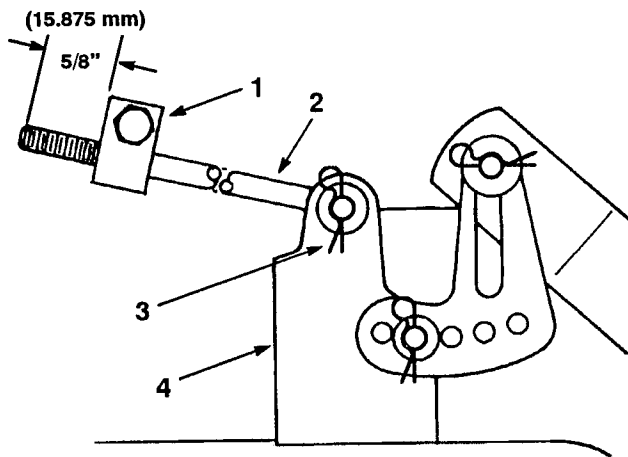

Figure 51
6. Measure the length of the rod extending out the front of the adjusting block on the sides of the chassis (Fig. 51). If the rod length is not 5/8" (15.875 mm), remove the hair pin cotter and washer from the end of the rod (Fig. 51), and turn the rod until the 5/8" (15.875 mm) dimension is obtained. Then install the end of the rod into the hole in the mower mount and secure in place with washer and hair pin cotter. Repeat this procedure on the opposite side of the mower.
8. Raise or lower the front of the mower by adjusting the length of the long rod and reinstalling it in the mower mount with the washer and hair pin cotter (Fig. 51). Adjust one side, then the other. After adjusting both rods, check the front-to-rear slope again. Continue to adjust the rods one turn at a time until the front of the mower is 1/8" to 3/8" (3.175 mm to 9.525 mm) lower than the rear of the mower.